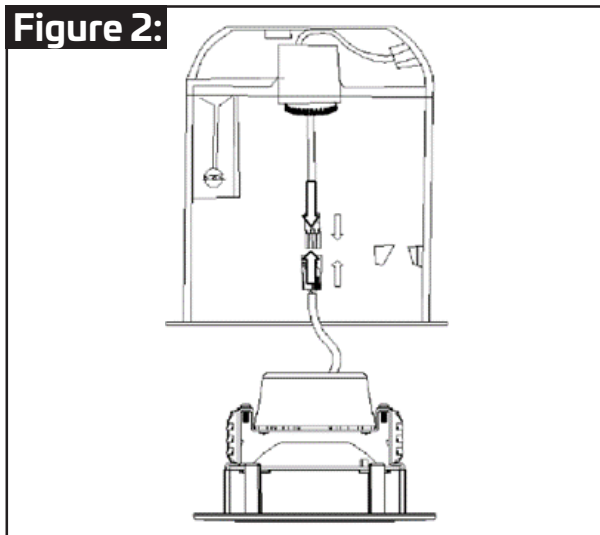

Figure 3:
STEP 4: As shown in Figure 3 - Press the spring on both sides so the springs can be on both sides of the bayonet.
STEP 4: As shown in Figure 3 - The lamp at both ends of the spring are arranged inside the lampholder bayonet, through the spring pressing on both sides, so that it can be on both sides of the bayonet.